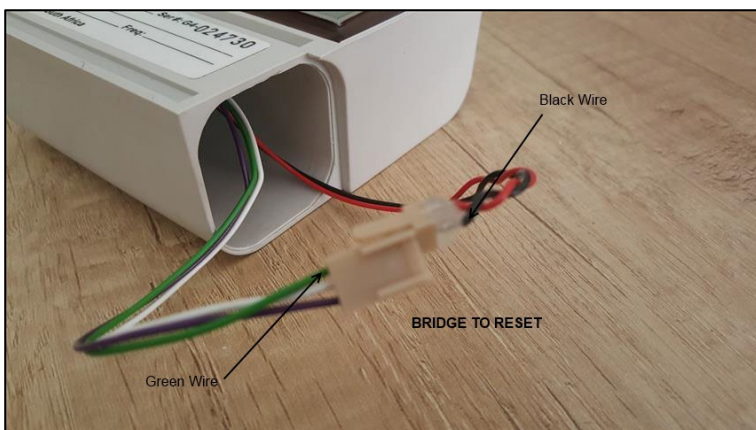

Figure 15: Resetting the RX
- Bridge out the black wires terminal pin with the green wires terminal socket for about 2 seconds on the receiver module as shown in Figure 15 below.